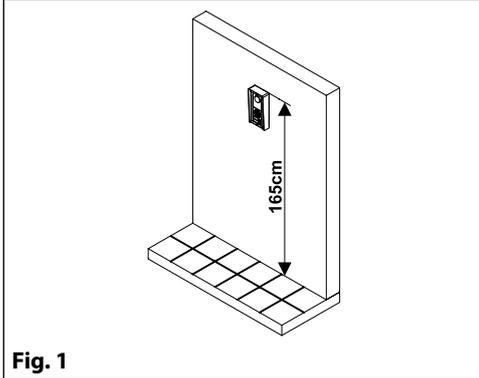
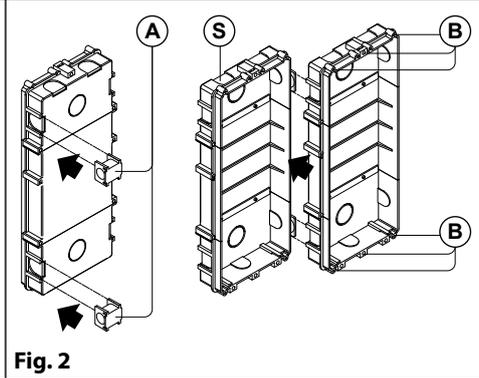

Fig. 1
Fig. 2
1. Mount back box **S (Fig. 2)** at 165 cm from ground level (**Fig. 1**);
2. If more than one flush box is needed, connect them by using the plastic spacers provided **A (Fig. 2)**;
3. If necessary finish and clean properly the module support fixing holes and all other holes **B (Fig. 2)**;
Fix the surface box on the wall at a distance of 165 cm between the top of the box and the ground (**Fig. 1**).